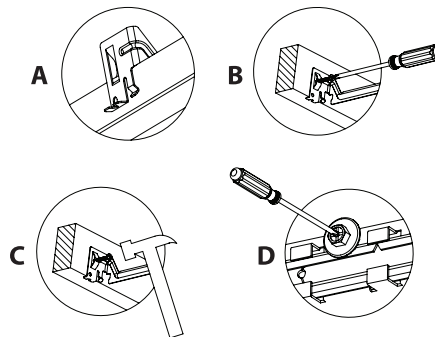

FIG. 3
4. To shorten hanger bars to fit in a 12" joist, snap off one section of the hanger bars (See **FIG. 3**).